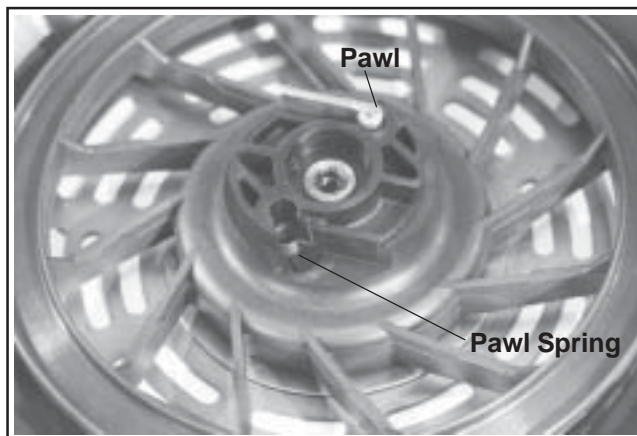

Figure 7-9. Installing Pawls and Pawl Springs.
3. Install the pawl springs and pawls into the starter pulley. See Figure 7-9.